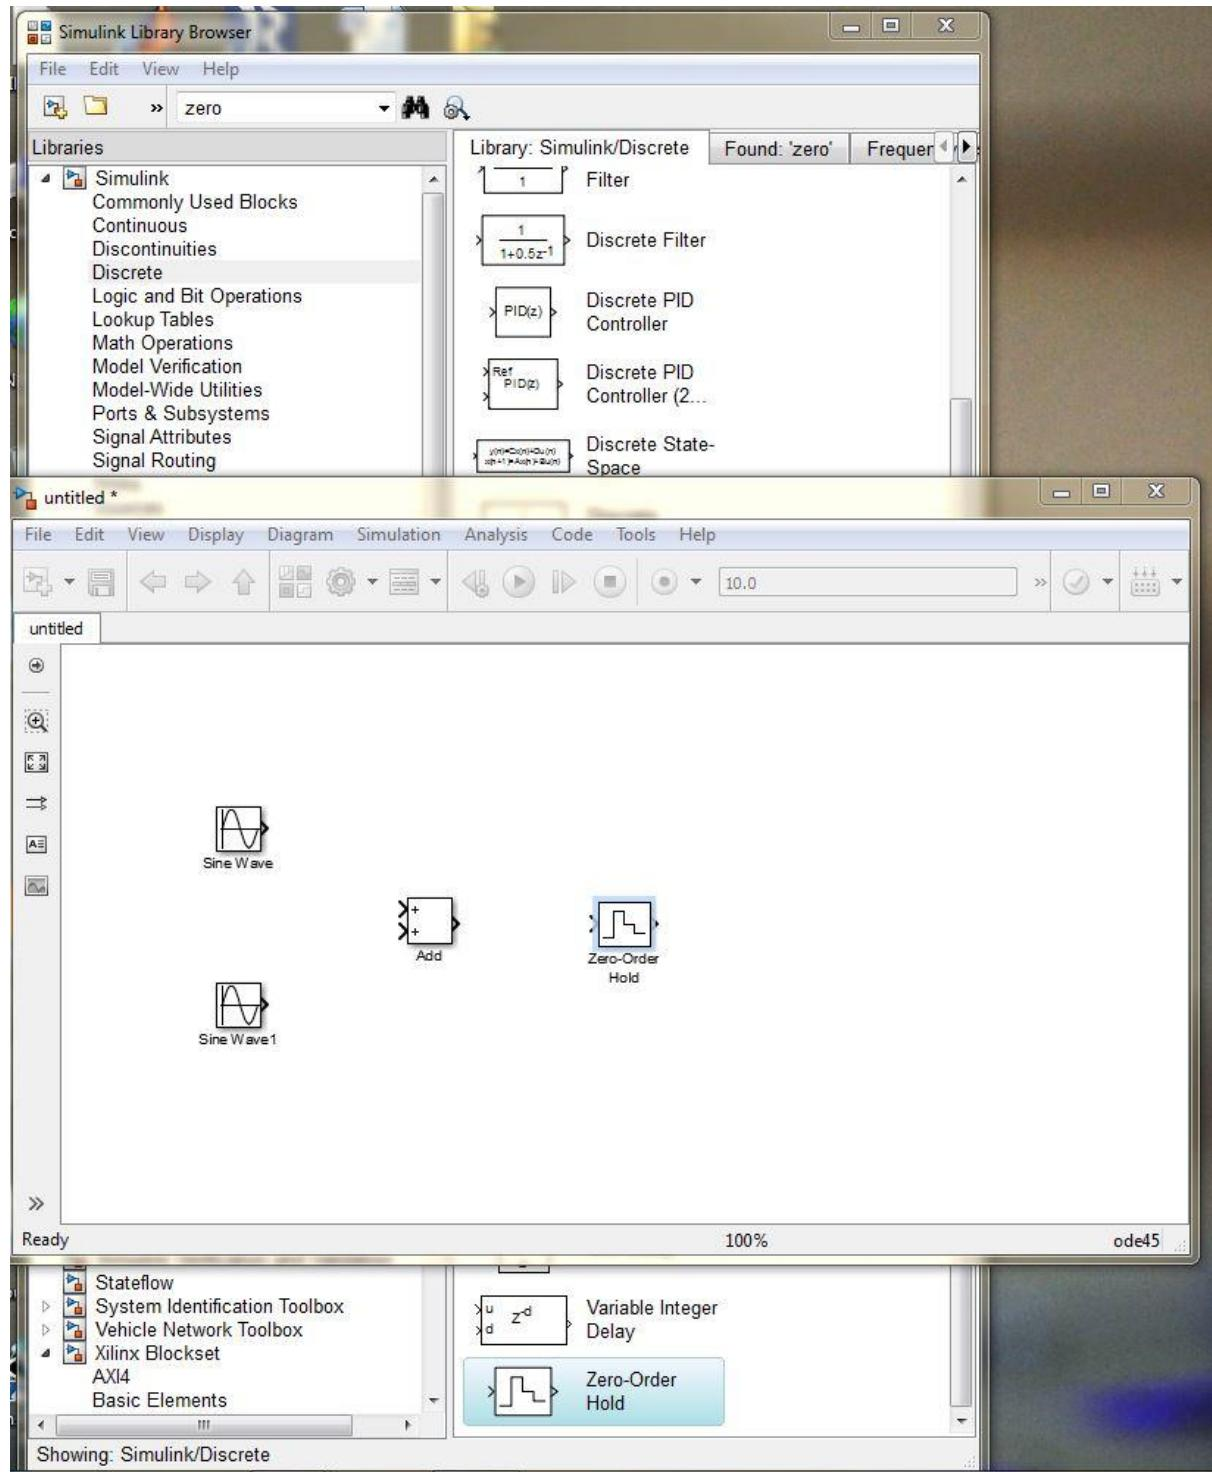

Figure 4: Addition of Zero-Order Hold.
5. Add Zero-Order Hold: *Simulink > Discrete > Zero-Order Hold* as shown in figure 4.